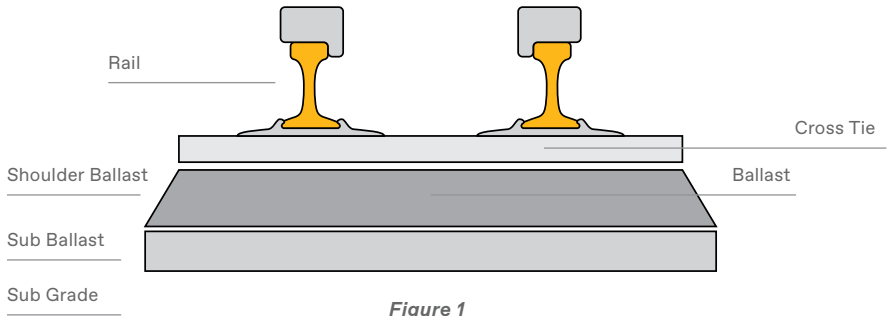

Figure 1
- The track structure is carefully engineered around curves to “bank” the outside rail and counter the lateral forces. This maintains an even weight distribution to both rails. **(Figure 1)**